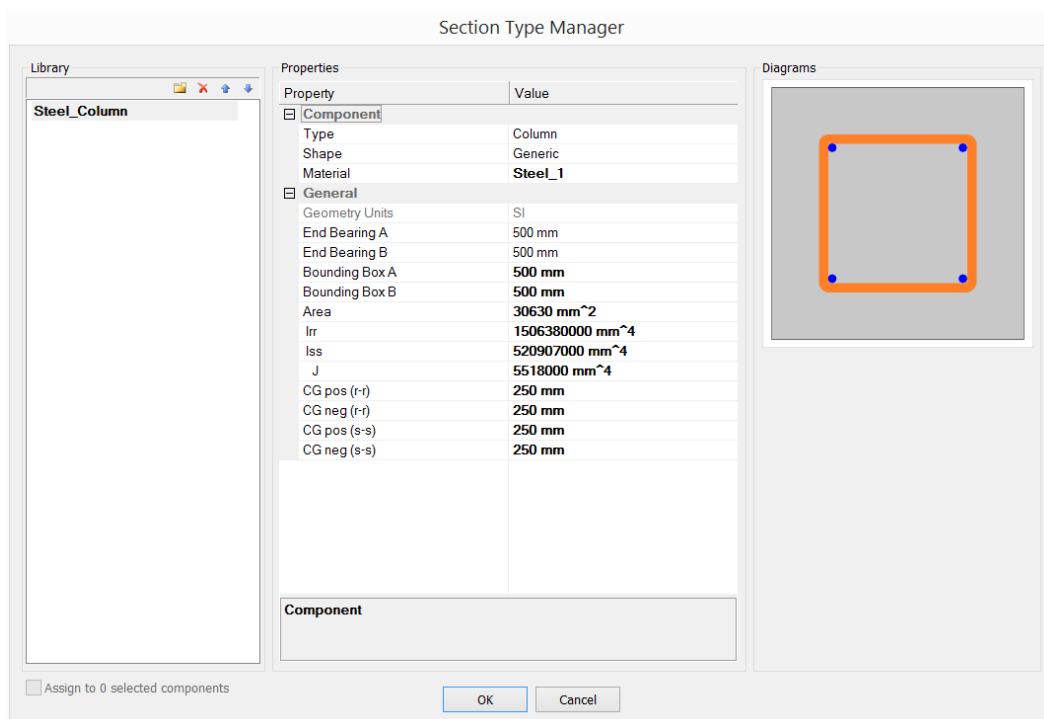

Figure 6.1-6 - Section Type Manager
- Type in the name of section type and select **OK**. For this example, use the name **Steel_Column**. See Fig. 6.1-6.
Depending on the selections for *Type*, *Shape*, and *Material* drop down lists as shown in Fig 6.1-6, the input parameters will change. The options are as follows: